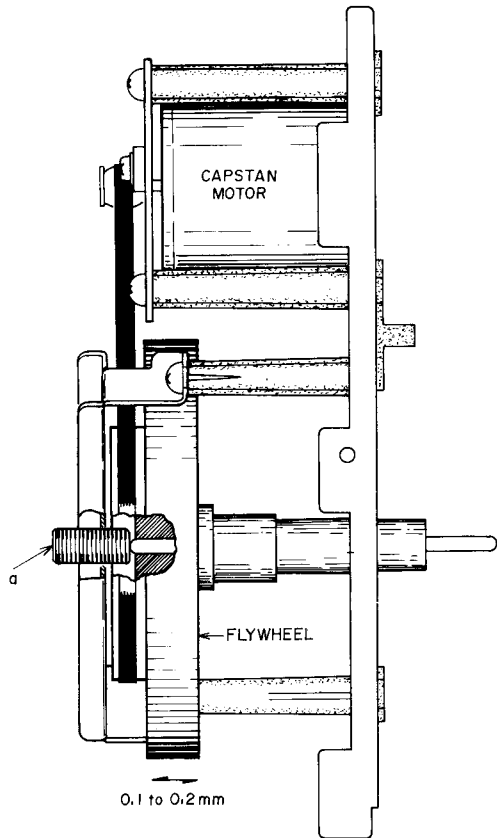

Fig. 5
1. FLYWHEEL LOOSE PLAY ADJUSTMENT (Refer to Fig. 5)